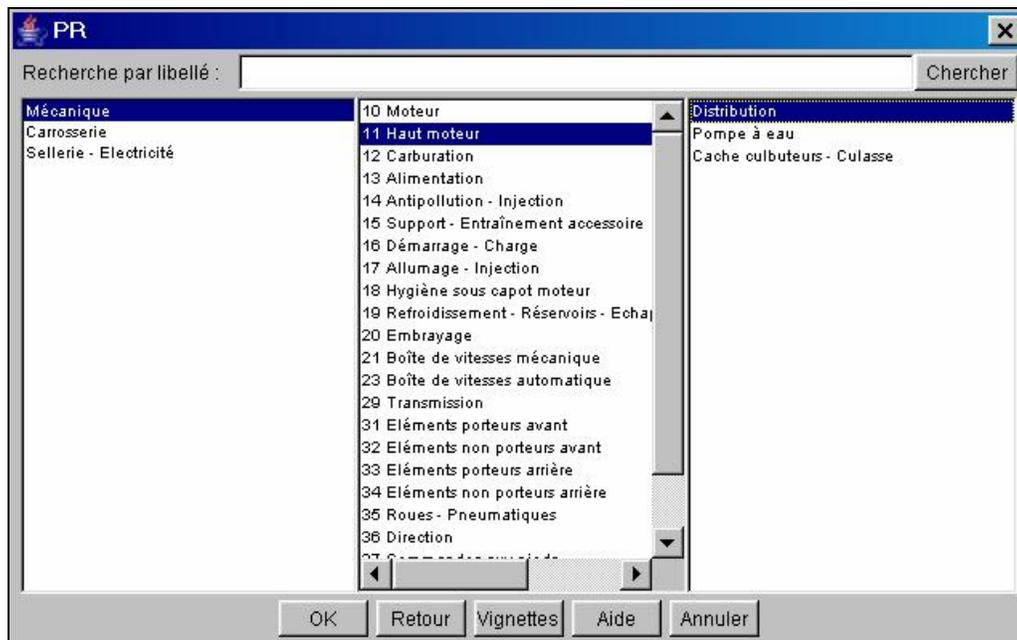

Figure 2: the PR access menu
The PR menu is shown below. Searches can be refined with a series of selections, which together form a **Technical Context** (Figure 2). So, in the case of spare parts, you choose in succession:
Finally, the upper part of the window gives access if required to special functions depending on the documentation concerned. So, in the case of Spare Parts (figure 2), it is possible to search by title. The special features of the menus associated with a given set of documentation are described in the help pages of the documentation in question.
- The other menu (shown in figure 2, common to PR, MR and Technical Notes) can still be accessed however, via the "Classic folder structure" button (buttons at the bottom)